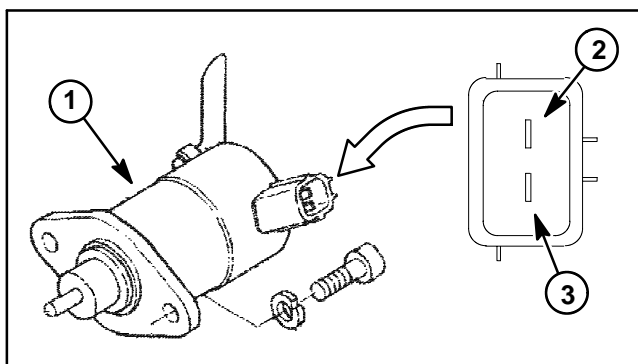

Figure 54
4. Using a digital multimeter (ohms setting), touch one test lead to the pull coil terminal and the other test lead to the fuel stop solenoid frame (ground) (Fig. 54). The resistance of the pull coil should be less than 1 ohm (but not zero).
5. Using a digital multimeter (ohms setting), touch one test lead to the hold coil terminal and the other test lead to the fuel stop solenoid frame (ground) (Fig. 54). The resistance of the hold coil should be approximately 15 ohms.